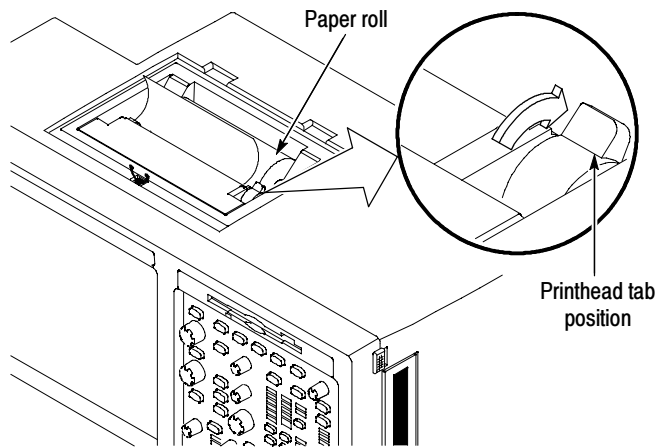

Figure 9: Printer tab position
- 6. Set the printhead tab back to secure the paper in the printer. See Figure 9.